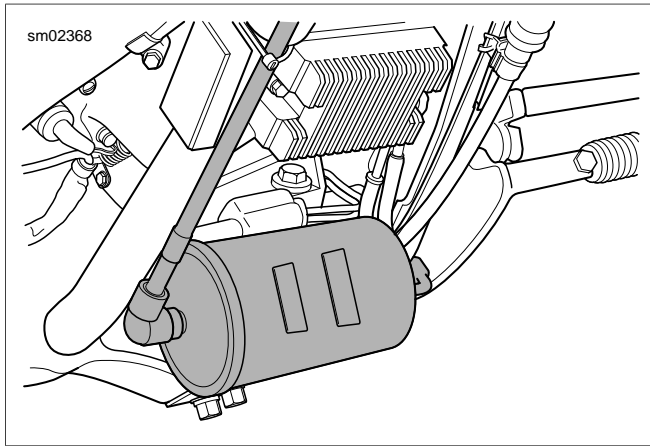

Figure 4-73. Charcoal Canister Location
See Figure 4-73. The EVAP charcoal canister is mounted between the forward frame downtubes.
1. See Figure 4-73. Slide canister into mounting bracket until canister clicks in place.